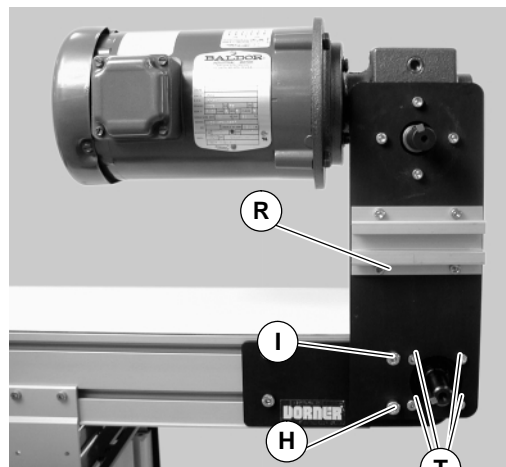

Figure 17
- d. Remove mounting screws (H, I and T of Figure 17) and remove drive package (R).